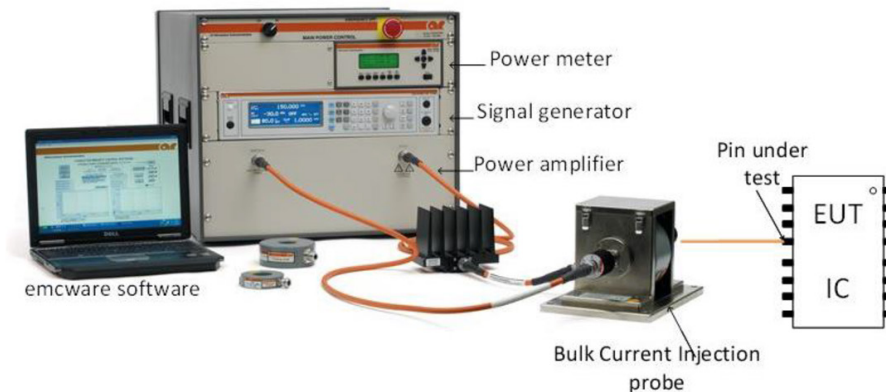

Figure 3: Basic Direct Power Injection (DPI) test-up
The bulk current injection (BCI) and direct power injection (DPI) method have become standard test methods. Because the BCI test uses a current injection probe to inject magnetically coupled electromagnetic (EM) fields, there is a significant difference between the power supplied by the radio frequency (RF) generator and that transferred to the integrated circuit (IC). As mentioned above, DPI testing is another method of EMC characterization of IC components. DPI testing measures the immunity of an integrated circuit as a function of the effective power transmitted to the circuit. However, due to impedance mismatch, most of the RF power delivered by the generator is reflected towards the source, and only a small amount enters the PCB and IC under test. To evaluate the immunity of an IC, the forward power needed to cause malfunction is measured. The malfunction may be classified from A to D according to the performance classes defined in IEC 62132-1. Figure 3 shows a typical DPI test setup.
AR’s new U-series, class A, VSWR tolerant, solid-state amplifiers exceed the standards and IC manufacturers’ requirements for direct power injection testing. Also, AR offers a wide range of highly linear solid-state, VSWR tolerant class A amplifiers (A and U-Series), which are highly recommended for both BCI and DPI component testing (DPI test set up shown in Figure 3). It should be noted the direct injection of RF disturbance to the IC package is very small and often negligible compared to the disturbance injected through the connected cables(s). Hence, the IEC 62132-5 workbench method is derived from the IEC 61000-4-6 (see ARI app note Conducted Immunity Test System for BCI and TWC Methods of Automotive, Military and Commercial Test Standards from 10 kHz to 3 GHz). The method described assumes that supply and signal cable(s) are attached to an electrically small test board, with dimensions $\leq \lambda / 2$, i.e., 0.15 m at 1 GHz. These connected cables become the dominant antennas; the induced RF disturbance is injected to the test board via these “antennas.” Using this concept, the circuit board layout’s RF performance, the IC supply decoupling, and discrete components (capacitors and inductors) can be measured.